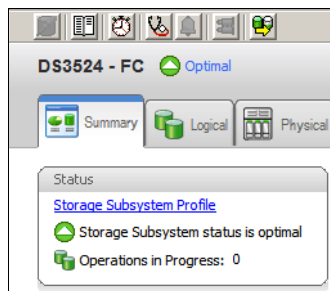

Figure 14-33 Viewing the DS3500 Storage Subsystem status in DS Storage Manager
- ▶ Make sure that the overall system status is Optimal by checking the Summary tab of the Storage Manager Subsystem Management Window as shown in Figure 14-33. If not, run the Recovery Guru as described in 14.13, “Recovery Guru - Recover from Failure” on page 409 to diagnose and fix the problem before proceeding with the upgrade.
**Note:** The overall DS3500 status can be checked in the Summary tab of the Subsystem Management Window as shown in Figure 14-33.